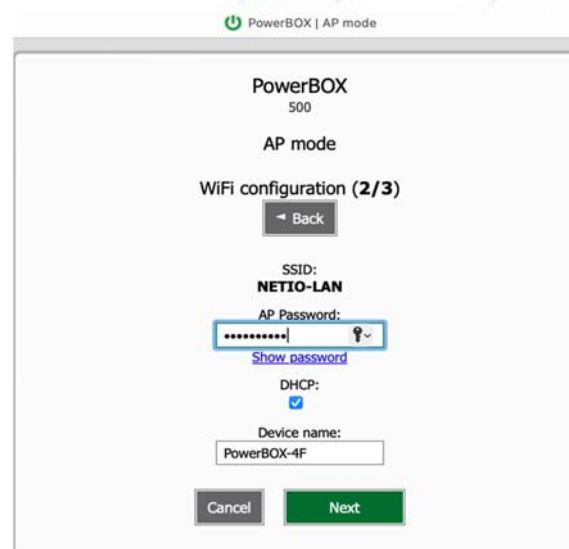

Figure 4
- Enter the password for the selected WiFi network. You may also change the device name. If your network does not use the DHCP, unselect this option and manually enter the IP address and other network parameters (for experts only). Confirm by pressing "Next". (Figure 4)